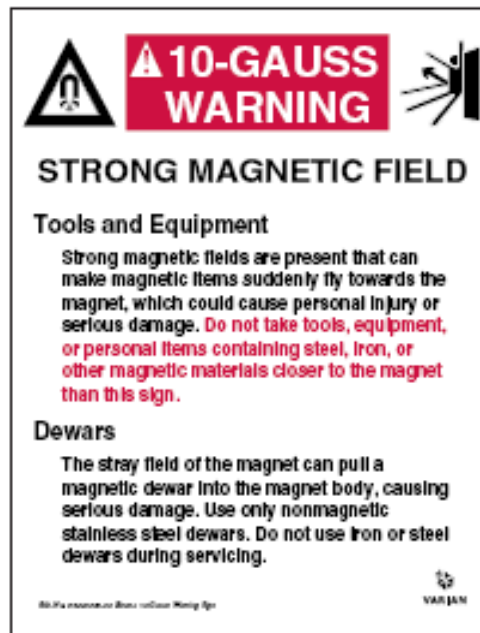

Figure 8 10-gauss warning sign
- 1 10-gauss warning signs (Figure 8) – Post along the 10-gauss perimeter of the magnet so that a sign can be easily seen by any person about to enter the 10-gauss field from any direction. Refer to the manuals supplied with the magnet for the size of a typical 10-gauss stray field. Check this gauss level after the magnet is installed.